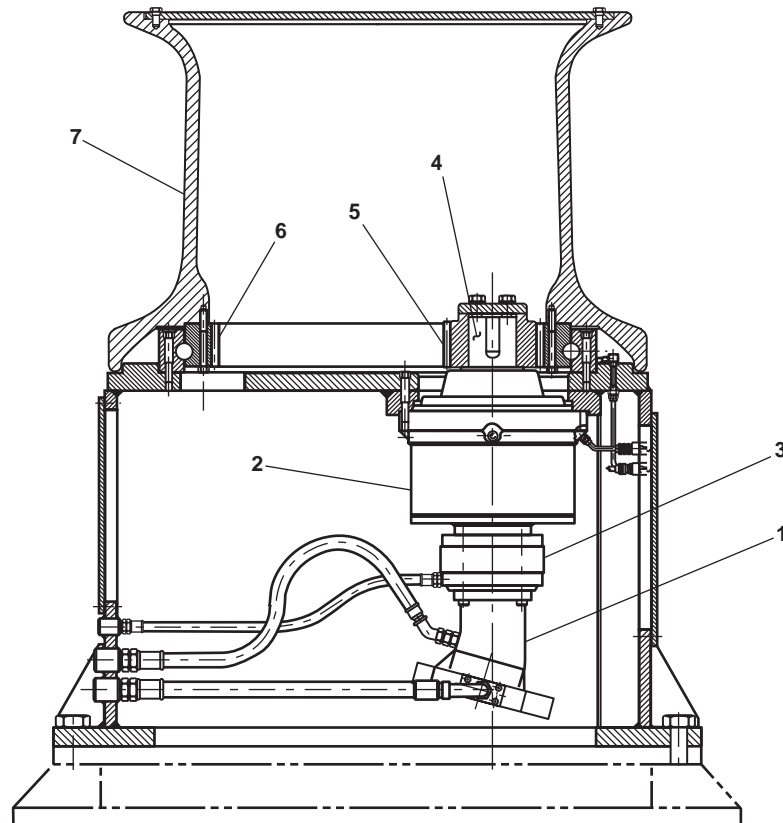

Figure 7. Capstan Mechanical Operation
The capstan motor (figure 7, item 1) drives the capstan through a double reduction planetary gear assembly (figure 7, item 2). The fail safe brake (figure 7, item 3) is fitted between the capstan motor and the double reduction planetary gear assembly. The double reduction planetary gear assembly decreases the speed and increases the torque of the capstan motor output shaft and transmits that torque to the double reduction planetary gear assembly output shaft (figure 7, item 4) and its attached pinion gear (figure 7, item 5). The pinion gear, in turn, drives the capstan ring gear (figure 7, item 6), further reducing output speed and increasing output torque. The ring gear is directly connected to the capstan drum (figure 7, item 7), thus ring gear rotation yields capstan drum rotation.